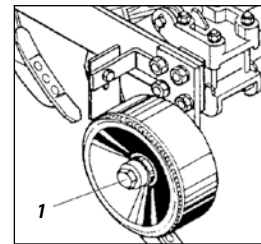

Figure 28
09 - removing the dust cap item 1 Fig. 28.